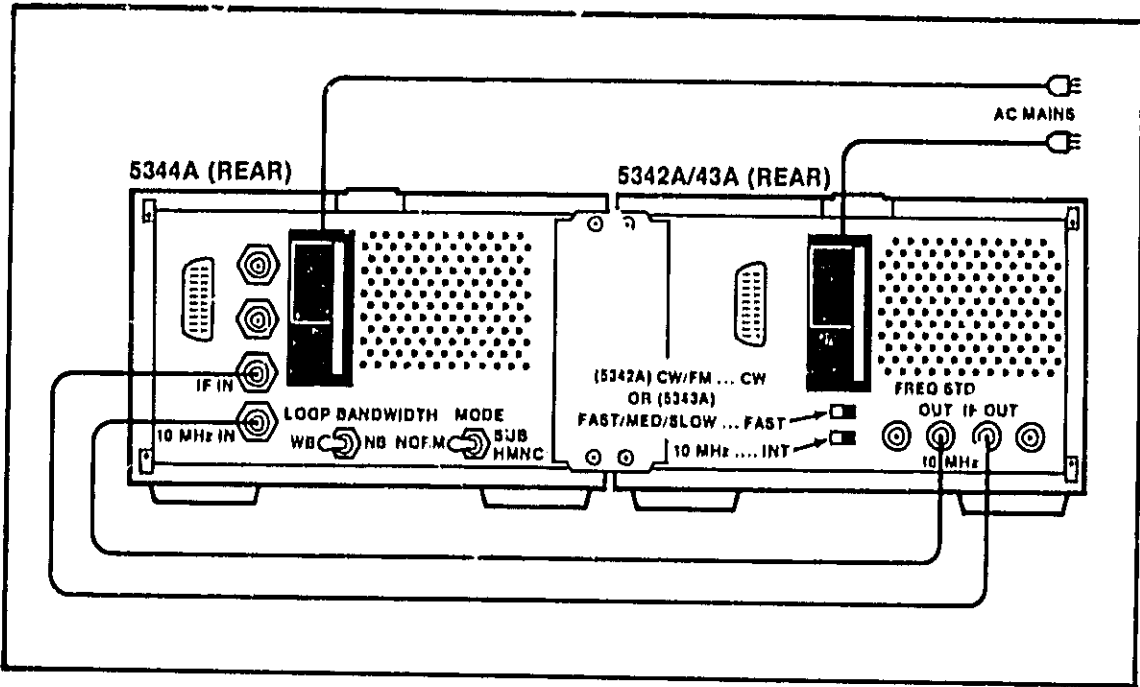

Figure 4-1. System Interconnections
a. Verify that the following instrument interconnections and switch configurations, as shown in Figure 4-1, are correct: